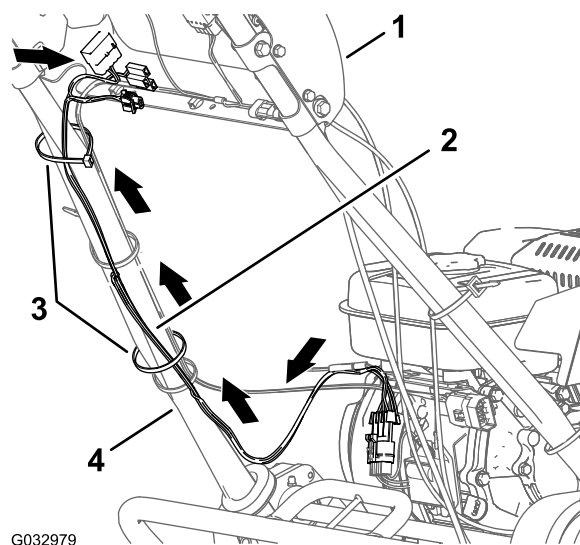
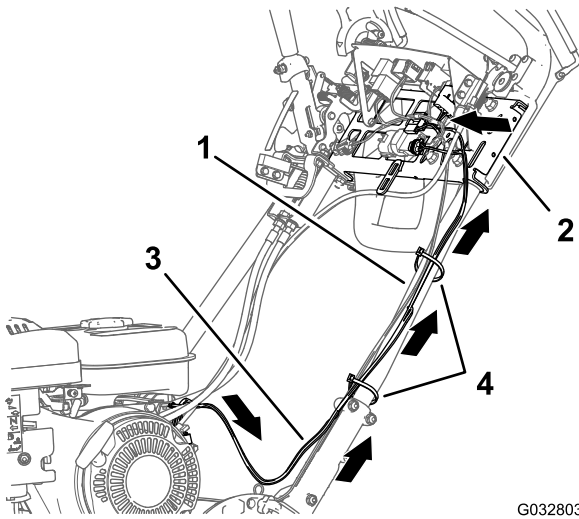

Figure 10
Figure 11
- Route the wire harness from the mounting bracket to the left handlebar (Figure 10 and Figure 11).
2. Route the wire harness along the left handle bar and across the support bracket of the handle bars (Figure 11).
3. Secure the wire harness with 2 cable ties as shown in Figure 10 and Figure 11.